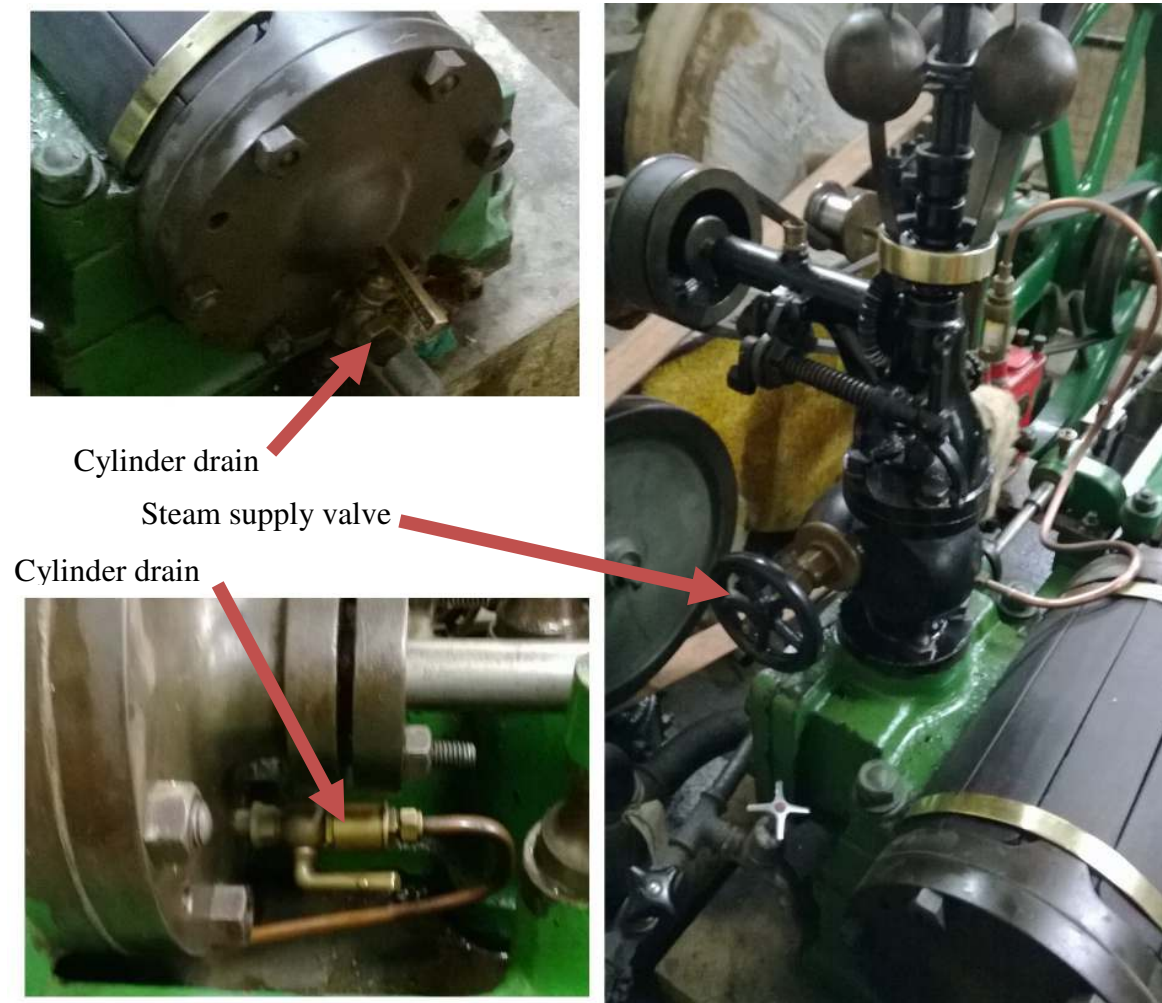

Figure 3 Bradford Engine: Steam Supply Valve and Cylinder Drains
- ◇ Close the steam stop valve (see Figure 3)